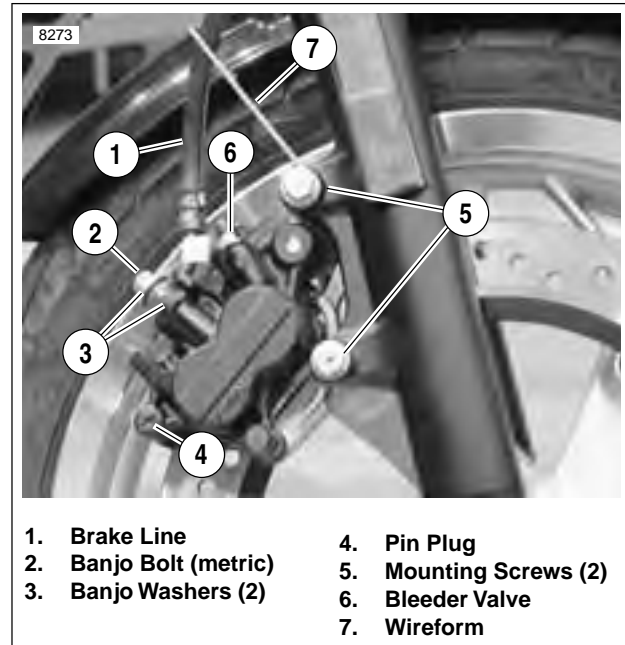

Figure 2-3. Front Brake Caliper
- a. See Figure 2-3. Remove pin plug (4).
4. See Figure 2-3. Detach caliper from mounts.
- a. Remove lower mounting screw (5).
- b. Remove upper mounting screw (5) and brakeline wireform (7) while supporting caliper above brake rotor.